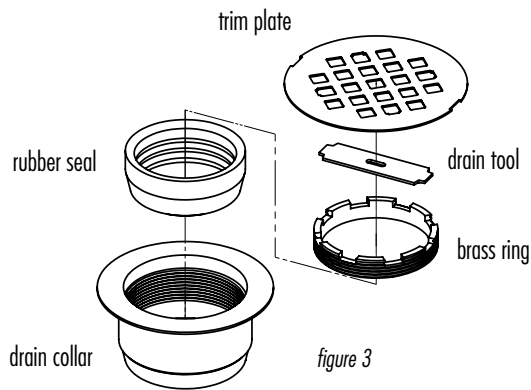

figure 3
1. The shower pan comes with a 2" drain assembly kit (fig. 3).